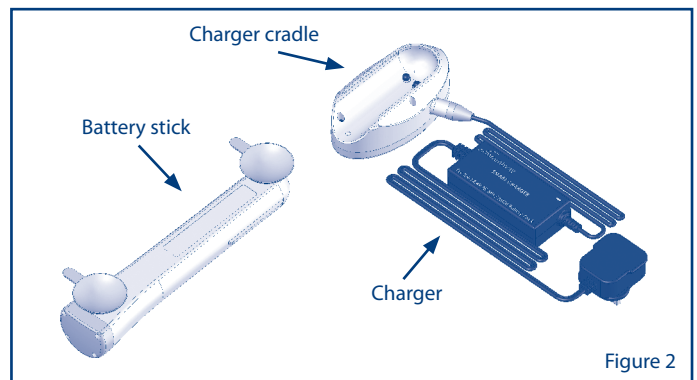

Figure 2
- A battery stick (see fig 2)
- A battery charger (plug and cradle) (see fig 2)
To charge the battery, the battery stick must be disconnected from the hand control. To do this, slide the battery stick out of the hand control and place it in the charger cradle (see fig 2). Plug the charger into the mains electricity supply outside the bathroom and switch on.